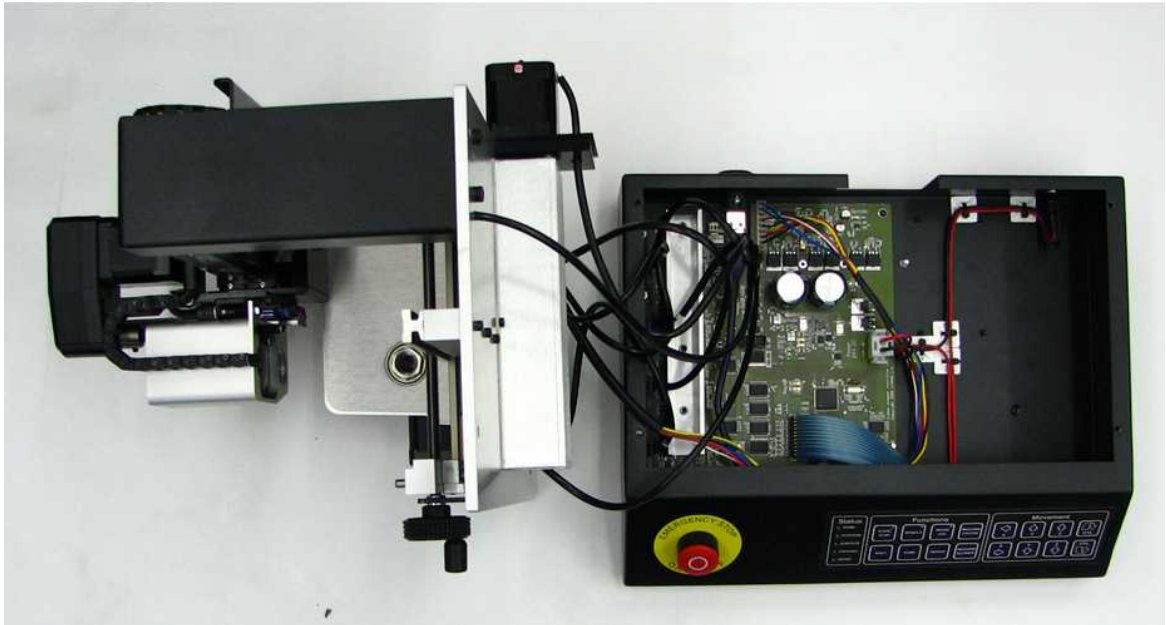

Figure 3
- 5 Now carefully separate the base plate from the controller base by lifting straight up and laying over to the left of the controller base, see Figure 3. Please ensure when removing you do not strain any of the wires and all the plugs remain in tact.